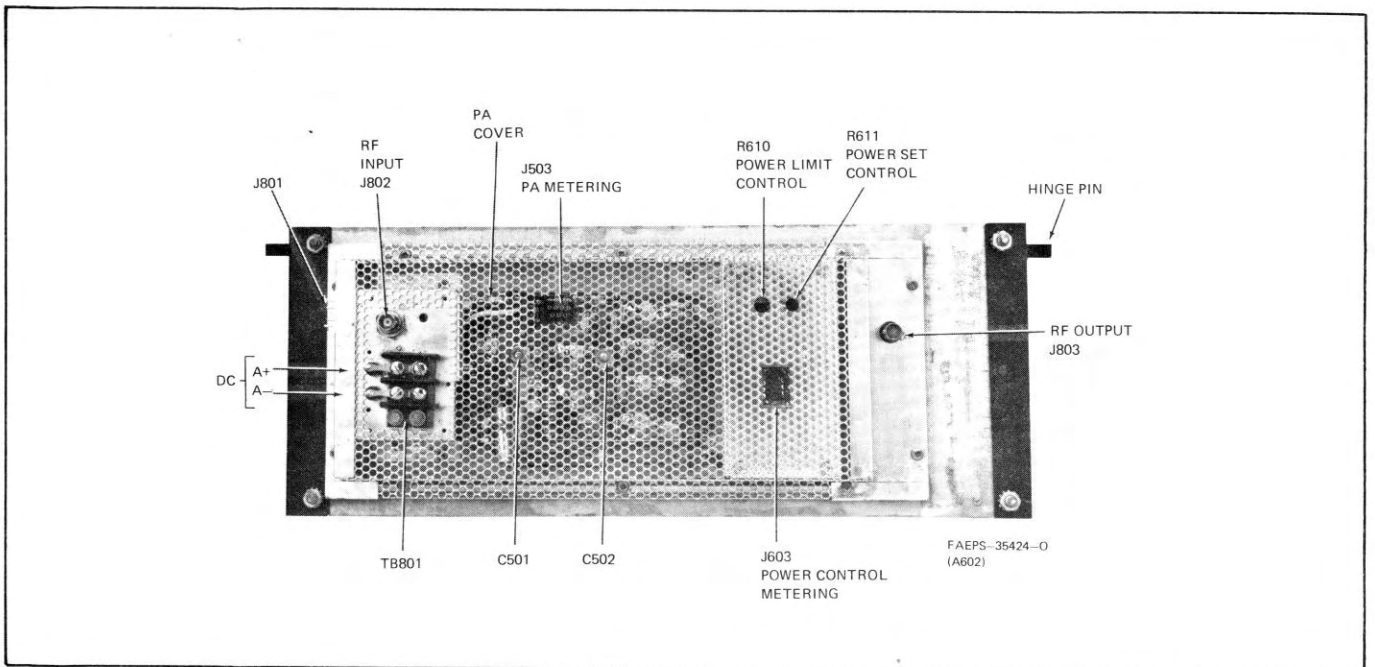

Figure 4. Power Amplifier Detail of Continuous Duty Station
5.2.2.2 To gain access to the power control board for servicing, remove the 4 screws holding the power control bracket (refer to Figure 4).